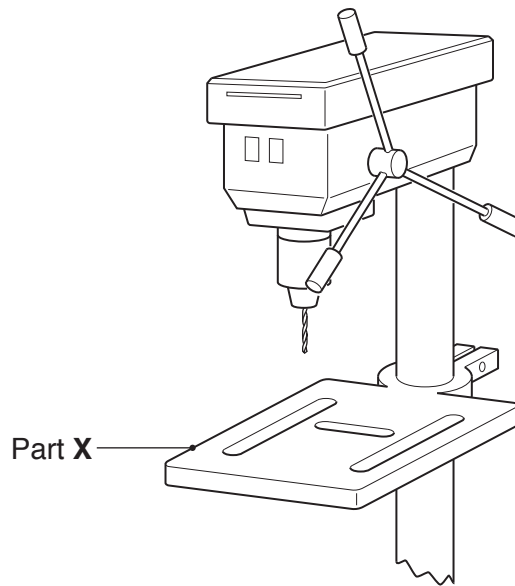

Fig. 6.1
- 6 Fig. 6.1 shows an adjustable bench mounted drilling machine that can be found in a school workshop.